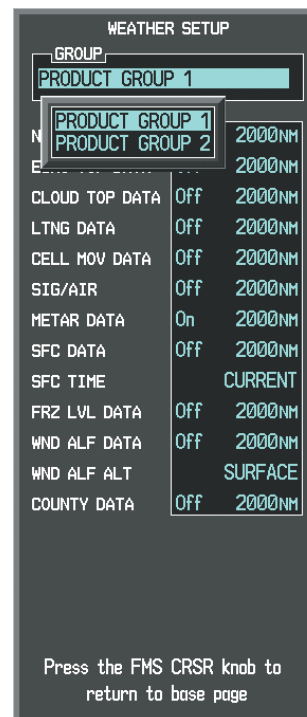

Figure 6-5 XM Weather Data Link Page Setup Menu
- 4) Turn the small **FMS** Knob to select 'PRODUCT GROUP 1' or 'PRODUCT GROUP 2', and press the **ENT** Key (Figure 6-5).